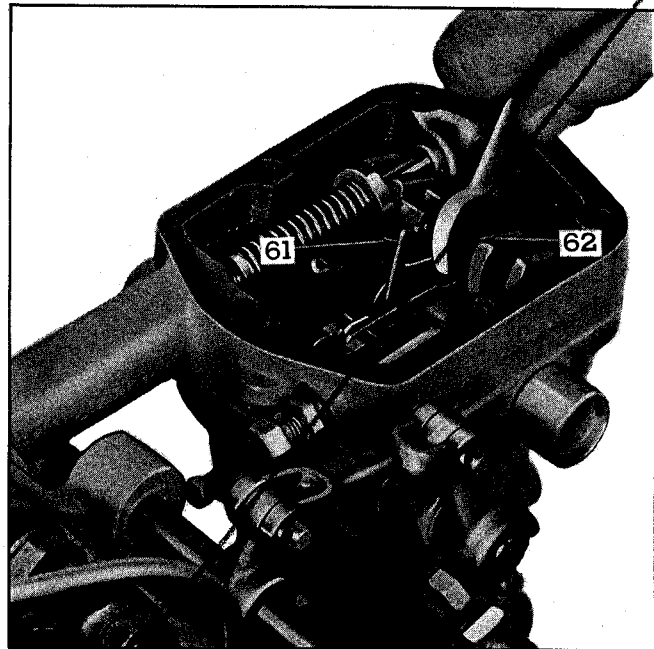

Fig. 16—Adjusting Speed Droop.
- Remove two bolts and withdraw variable speed spring housing (51) and also variable speed spring plunger (104), Fig. 16 in section 2.
- Refer to table 3 and determine the stops (107) or (108) required for the desired no-load speed.
- If required, refer to Fig. 16 in section 2 and add shims (102) as required.
4. Refer to Fig. 16 and loosen droop adjusting bolt (62). Move bracket (61) so that bolt is mid-way between ends of slot in bracket. Tighten bolt.